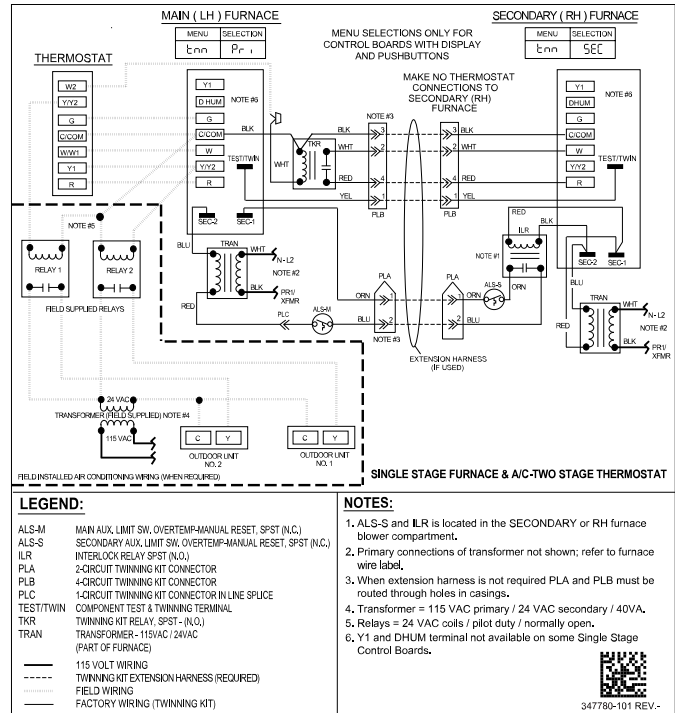

Fig. 21 – Single-Stage Furnaces with Two-Stage Thermostat A210188
- b. For staged operation of single-stage furnaces with a two-stage thermostat, remove the fork terminal from the terminal on the TKR and discard. The thermostat W2 lead is spliced into this wire. Refer to Fig. 21 and Thermostat Connections section for details.
See Fig. 21.
See Fig. 21 and Table 4